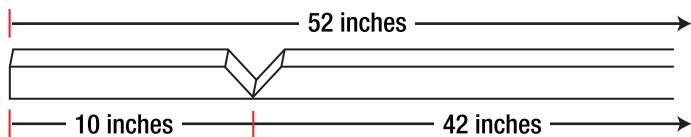

Figure 11-19. You need to cut a V shape out of the handlebar to bend it.
The upper frame is a 72-inch piece of 1inch square steel tubing, cut into two pieces. The longer, 52inch piece serves as the main handlebar riser assembly and must be semi-cut and bent into a slightly obtuse L shape (see Figure 11-19).
2. Cut a V notch into a 52-inch piece of tube, about 10 inches from the end (see Figure 11.19). Make a V cut into the top and sides of the square tube, but do not cut through the bottom of the piece.